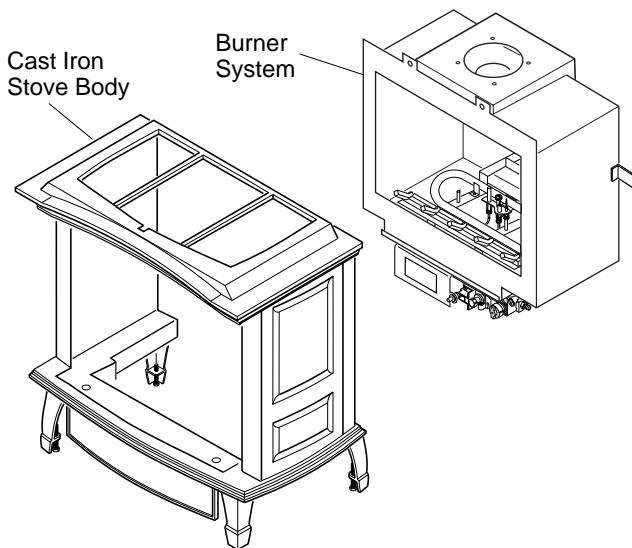

Figure 16 - Installing Burner System into Cast Iron Stove Body
1. Carefully lift burner system and place into stove body from the rear of stove (see Figure 16).